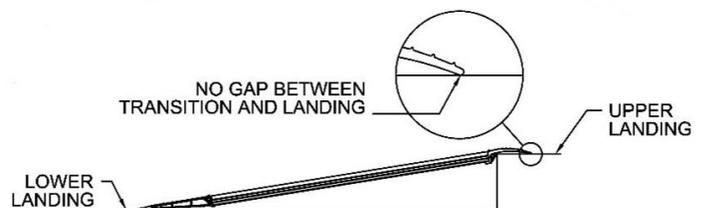

FIG. 2
4. Ensure that the top lip transition plate fully overlaps the supporting surface and that the ramp is perpendicular (90°) to the edge of the support surface. If obstructions prevent the top lip transition plate from fully overlapping or being placed at 90° from the landing, reposition the ramp as required (FIG. 2).